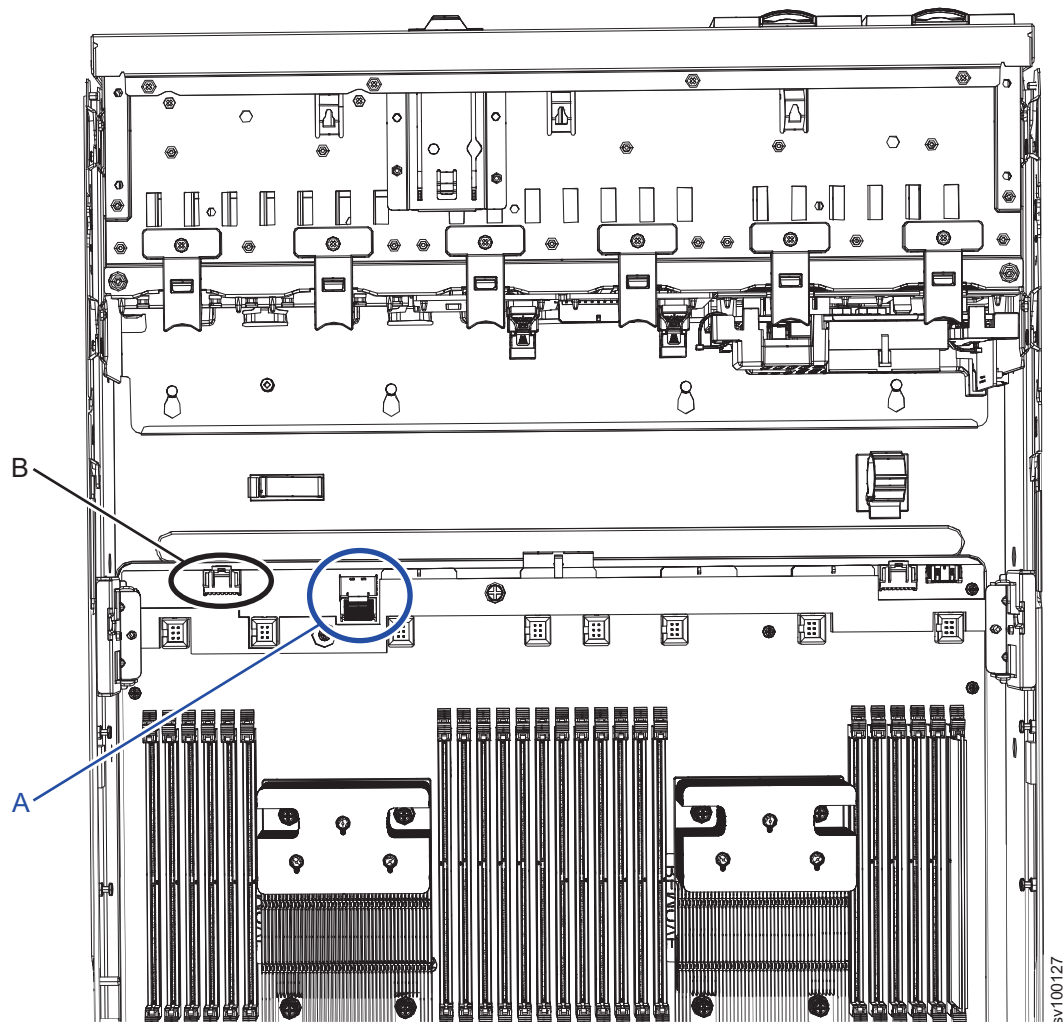

Figure 167. Cable connectors on the main board for the operator-information panel cables
2. Remove the blue and black cables from the connectors (**A** and **B**) on the main board, as shown in Figure 167 on page 200.